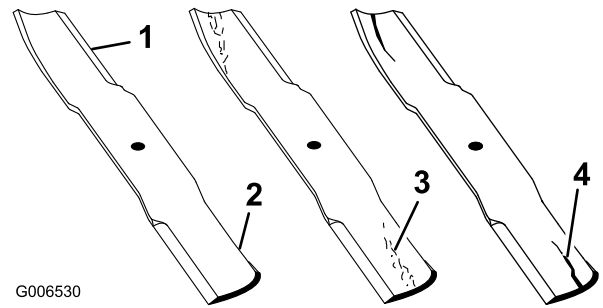

Figure 45
1. Inspect the cutting edges (Figure 45).
2. Inspect the blades, especially the curved area (Figure 45).
Note: If you notice any damage, wear, or a slot forming in this area (items 3 and 4 in Figure 45), immediately install a new blade.